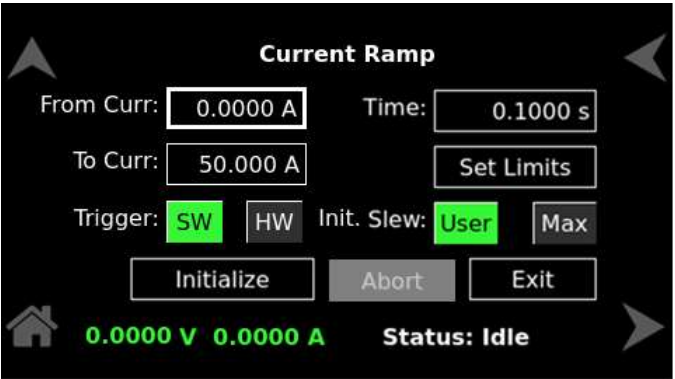

Figure 9-77. Status – IDLE
a) **IDLE** - When the system is in Idle (not performing any task) situation, refer to Figure 9-77.